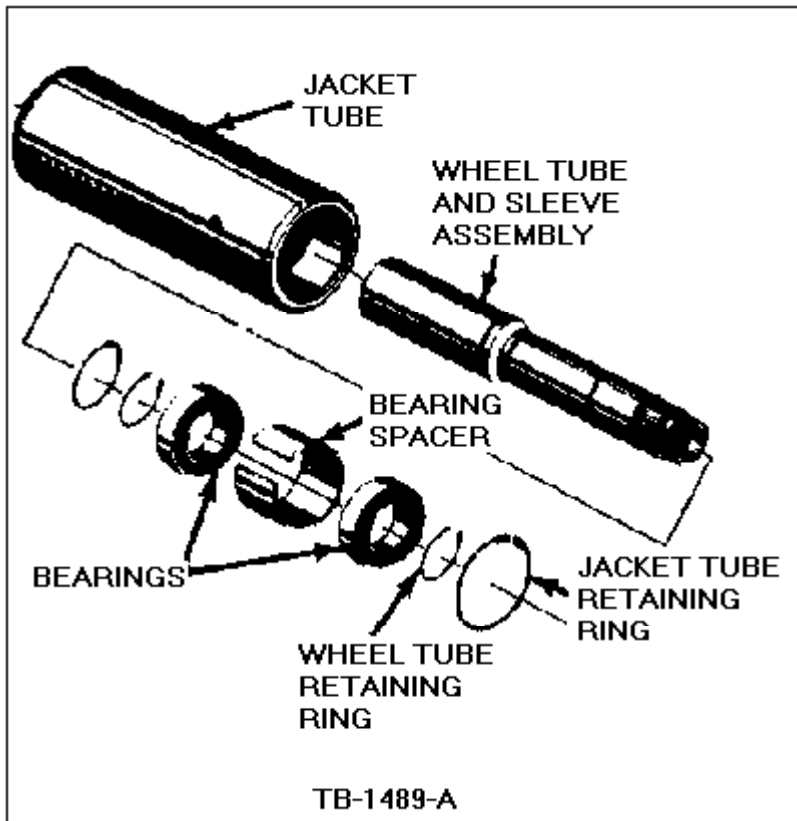

Figure 22 - Article 90-5-10
25. Remove the wheel tube and sleeve assembly from the jacket tube by removing the retaining ring from the top end of the wheel tube and the internal retaining ring from the jacket tube, Figure 22.
29. Remove the retaining ring from the large diameter of the wheel tube and spline sleeve assembly, if replacement is required, Figure 22.
31. Remove the retaining ring from the wheel tube, Figure 22.